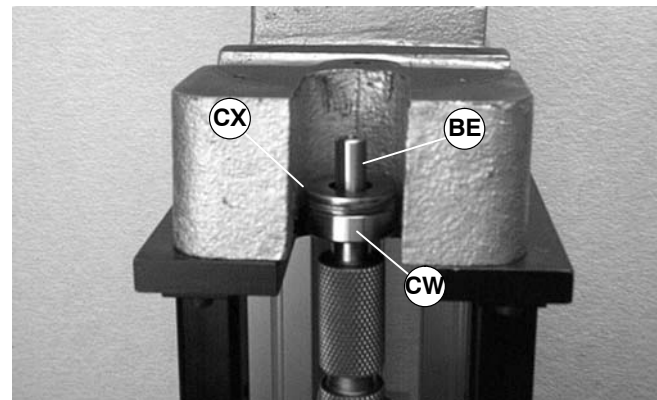

Figure 58
- Slide bearing (CW) (part # 802-124) over drive pulley (BE). Place two 5/8 flat washers (CX of Figure 58), or equivalent, over the drive pulley (BE) and against the bearing.